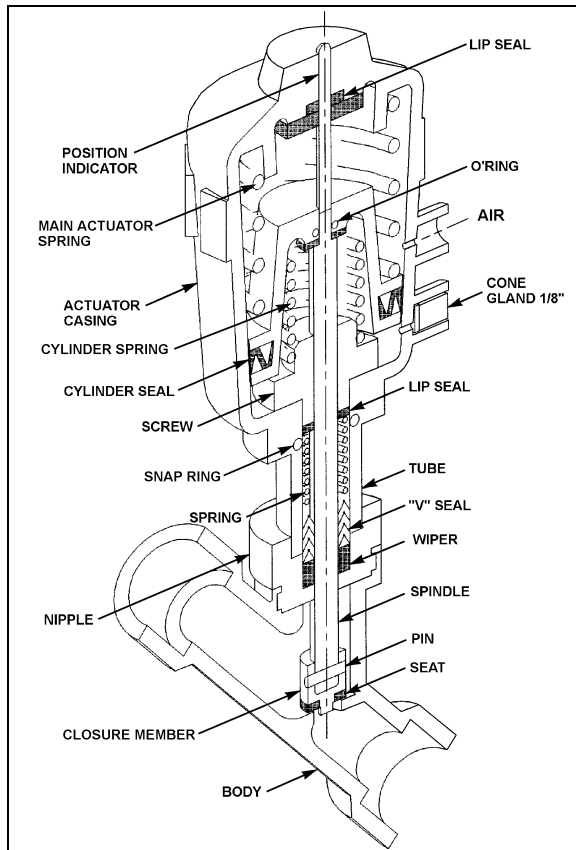

FIGURE 45: DRIVER'S PNEUMATIC WATER VALVE
2. The water valve need not be removed from the line. Unscrew nipple, the actuator casing, tube, spindle and closure member can be removed (Figure 45)
2. Tighten the nipple in place in the body cavity as per figure 45. Fasten pilot solenoid valve to the pneumatic water valve. Reconnect air supply pressure and electrical current to the pilot solenoid valve.